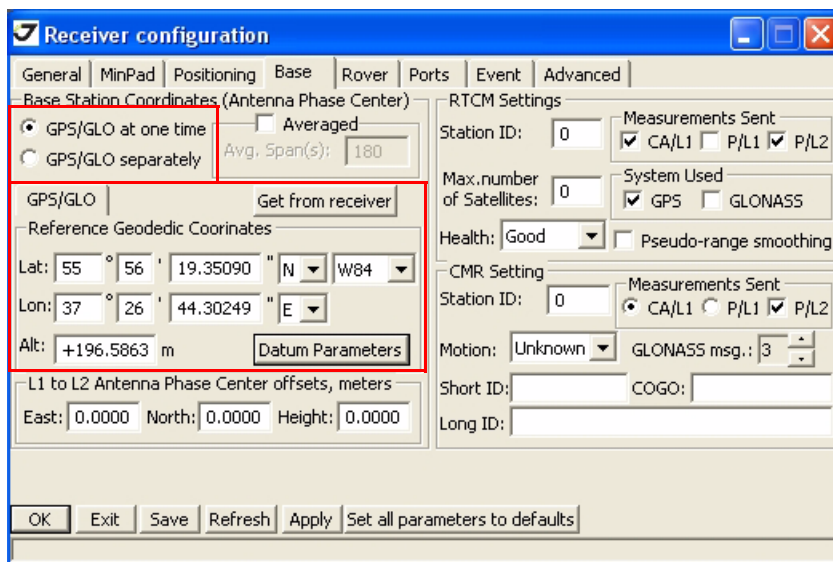

Figure 3-5. Base Configuration
- For the Base receiver, click the *Base* tab and set the following parameters (Figure 3-5 on page 34), then click *Apply*.